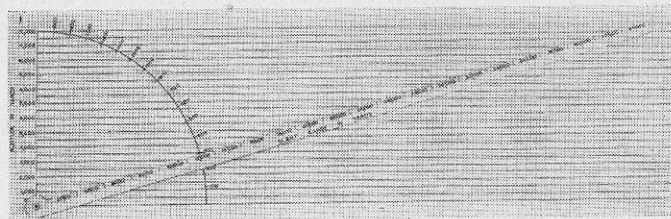

FIGURE 60.—Pivoted arm range conversion chart.
■ 1. GENERAL.—In some instances it may be found convenient to construct an auxiliary range conversion device for use with the SCR-545. Two simple devices are shown in figures 60 and 61 of this appendix.
■ 2. PIVOTED ARM TYPE.—This device, shown in figure 60, is merely a slant range arm pivoted at zero slant range with an angular height scale. The arm is set at the angular height read on the ELEVATION DIALS and the altitude is read on the vertical scale opposite the slant range figure, read from the RANGE DIALS, on the pivoted arm.